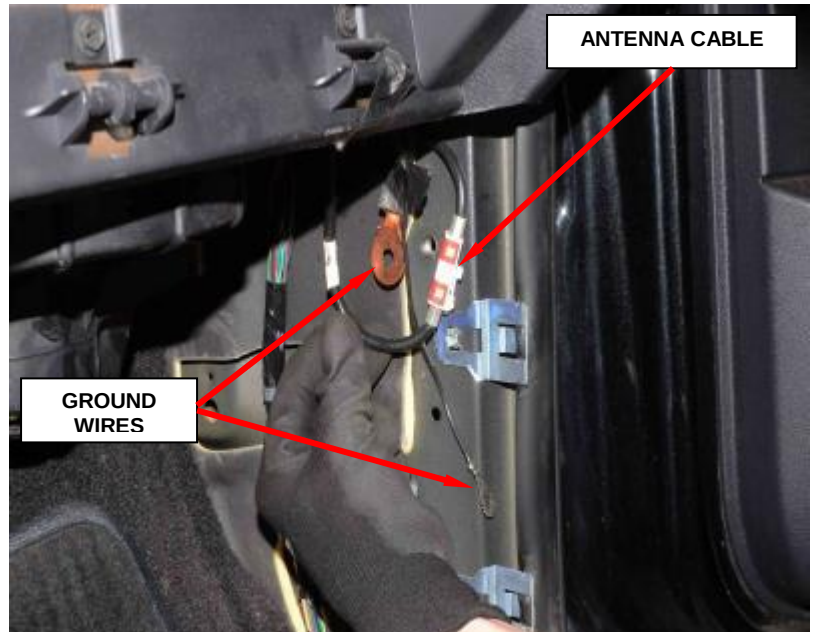

Figure 138 – Ground Bolt and Nut
18. Remove the bolts from the pedal support (Figure 138).